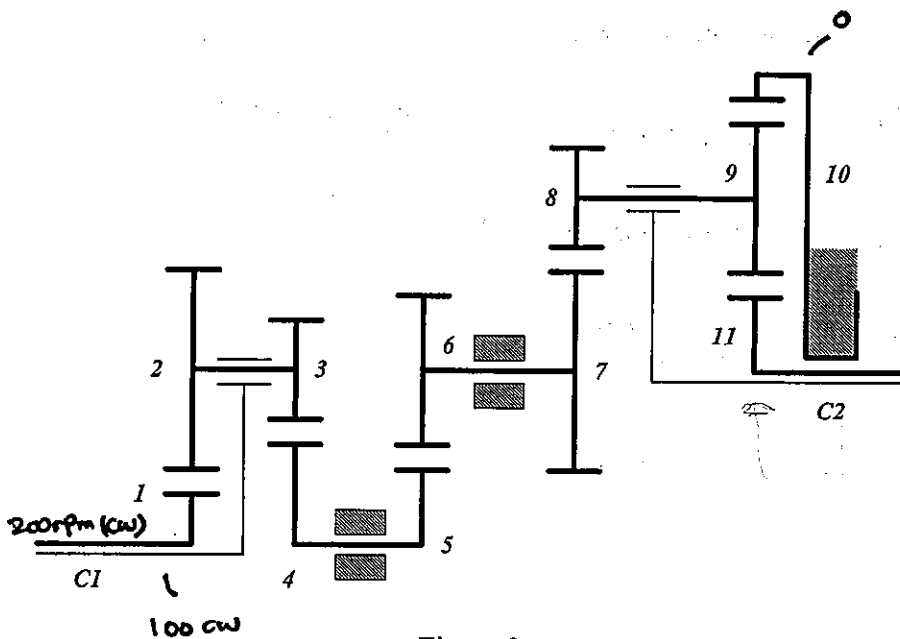

Figure 3
- (c) A compound planetary gear train system is shown in Figure 3. Gear 1 is the input running at 200 rpm (cw) and Gear 10 is fixed. There are two carriers C1 and C2. The carrier C1 rotates at 100 rpm (ccw). Gear 4 and 5 are connected together. Gear 6 and 7 are connected together. The tooth numbers of the gears are given as: